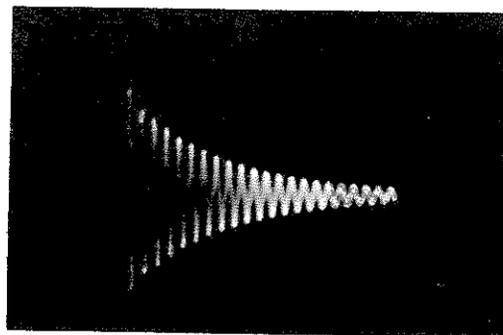

Figure 12. Typical ringing waveform obtained from good component.
With the WO-33B, you can perform a "ringing" test on these horizontal deflection circuit components. In this procedure, a pulse obtained from the oscilloscope sweep circuit, made available from the convenient jack on the side of the 'scope case, is applied to the component under test. The condition of the component can then be evaluated by the amount of damping observed in the waveform. Typical waveforms obtained from a good component and one that has shorted turns are shown in Figures 12 and 13.
5. Adjust the SWEEP VERNIER Control to provide a waveform similar to that shown in Figure 12. If the correct pattern cannot be obtained, re-set the FUNCTION Switch to the 10 K to 100 kHz range and adjust the SWEEP VERNIER as required. If the component is open or is badly shorted, it will not be possible to obtain the correct waveform.